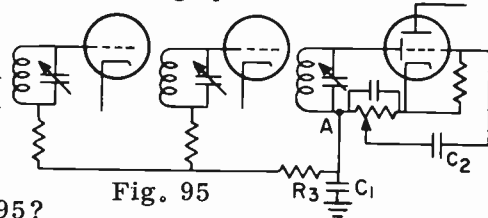

Fig. 95
95. Fig. 95 illustrates:
96. What is wrong with Fig. 95?
- nothing is wrong with Fig. 95
97. Referring to Fig. 95, what would happen if C2 were open?